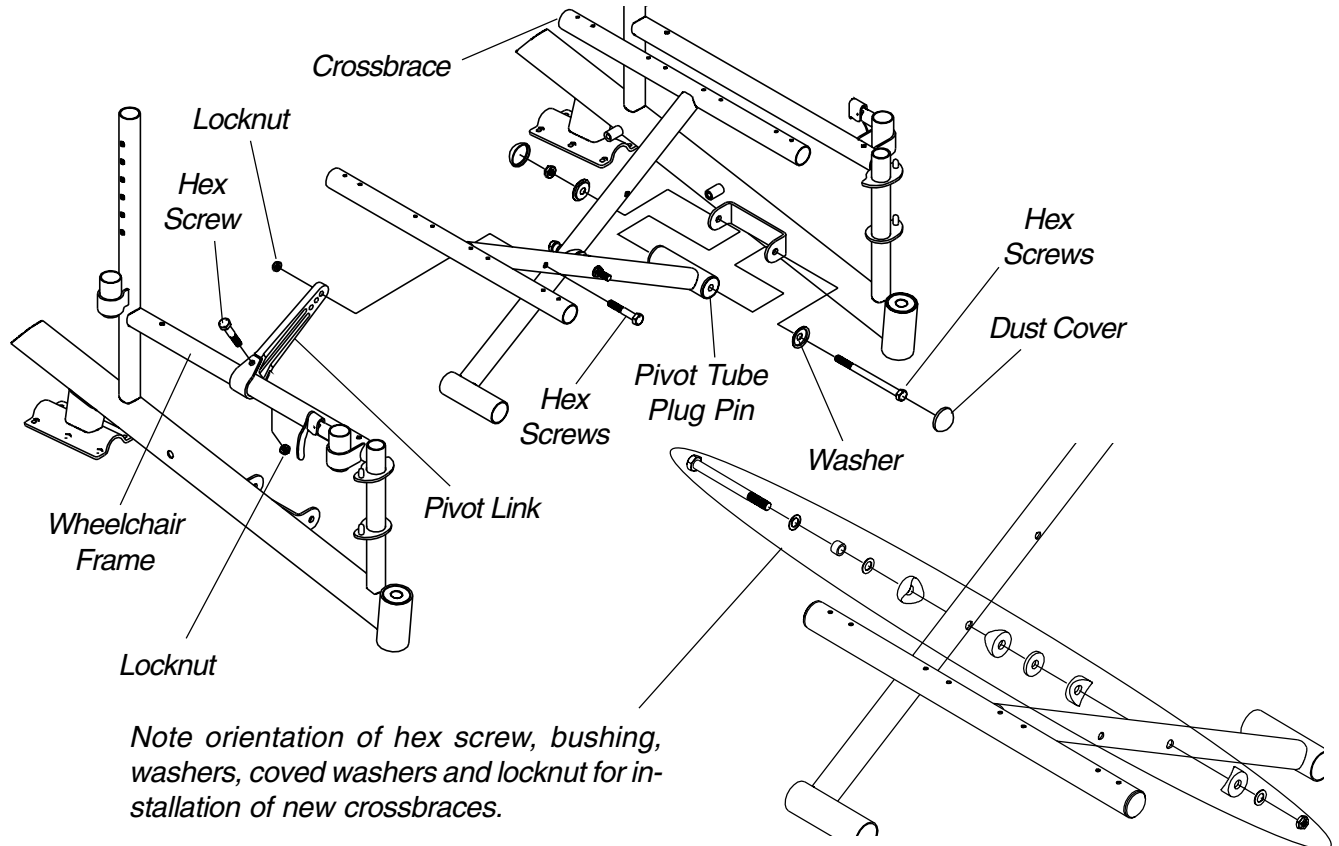

FIGURE 8 - CHANGING SEAT WIDTH
CHANGING SEAT WIDTH (FIGURE 8)
7. Remove the four (4) pivot tube plug pins from the bottom of the two (2) existing crossbraces.
8. Install the four (4) pivot tube plug pins into the bottom of the two (2) new crossbraces.
9. Assemble the two (2) new crossbraces together. Refer to FIGURE 8 for hardware orientation.
10. Reinstall the hex screws, washers and locknuts that secure the bottom of the two (2) new crossbraces to the wheelchair frame.